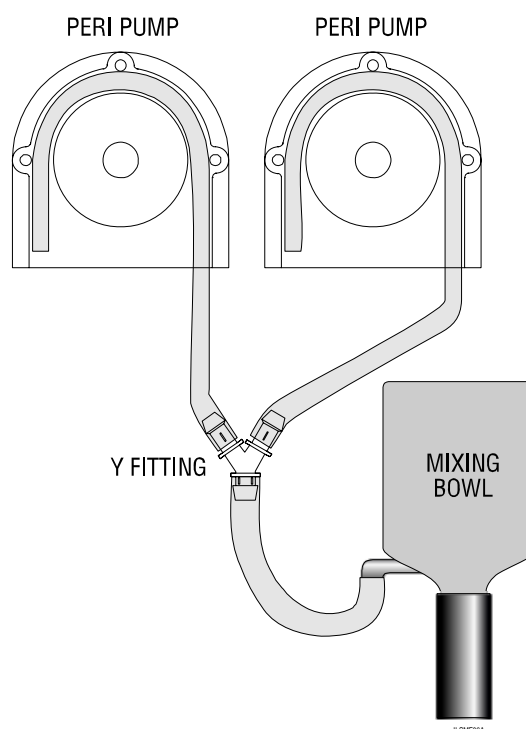

Figure 10. Tubing Installation for Tandem Peri Pumps
- When installing a tandem set of peri pumps, remove the black 1/2-inch barb from the discharge side of the feed tubes of both pumps that will comprise the pair. Next, insert both feed tubes into the supplied 1/2-inch Y fitting. Finally, run tubing from the bottom of the Y to the mixing bowl. See Figure 10.